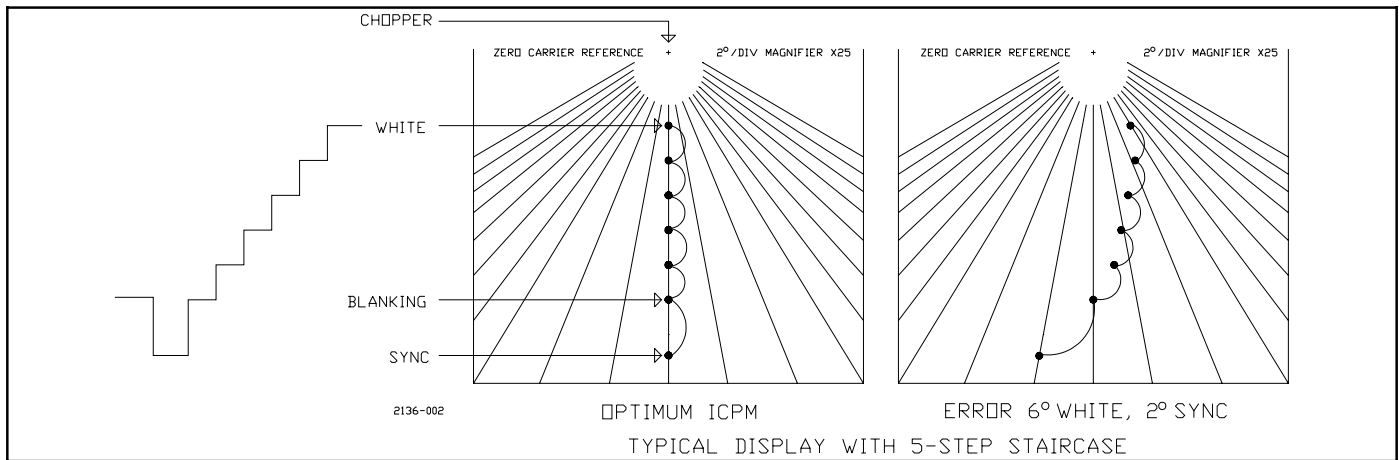

Figure 5-3. ICPM Display
5. Readjust MOD BIAS for correct modulation depth at white. See Figure 5-3.